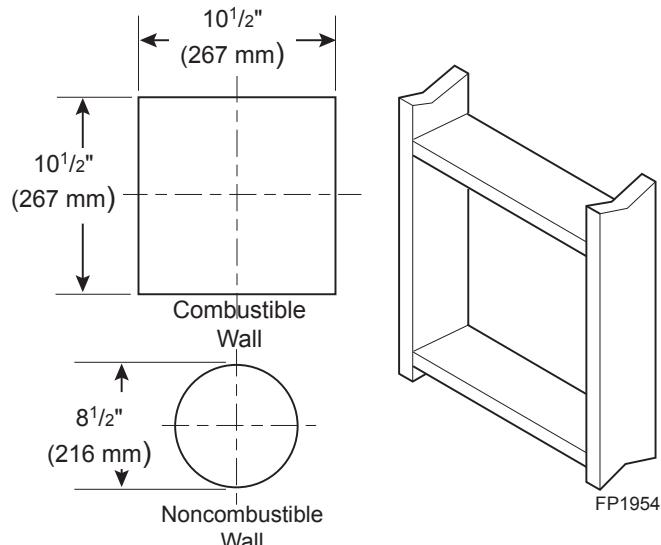

Figure 25 -
Combustible Exterior Walls: Cut a 10½"H x 10½"W square hole through the exterior wall frame. *Figure 25*
- The center of the hole should line up with the center line of the horizontal rigid vent pipe end. Allow 1/4" minimum rise per foot. *Figure 25*